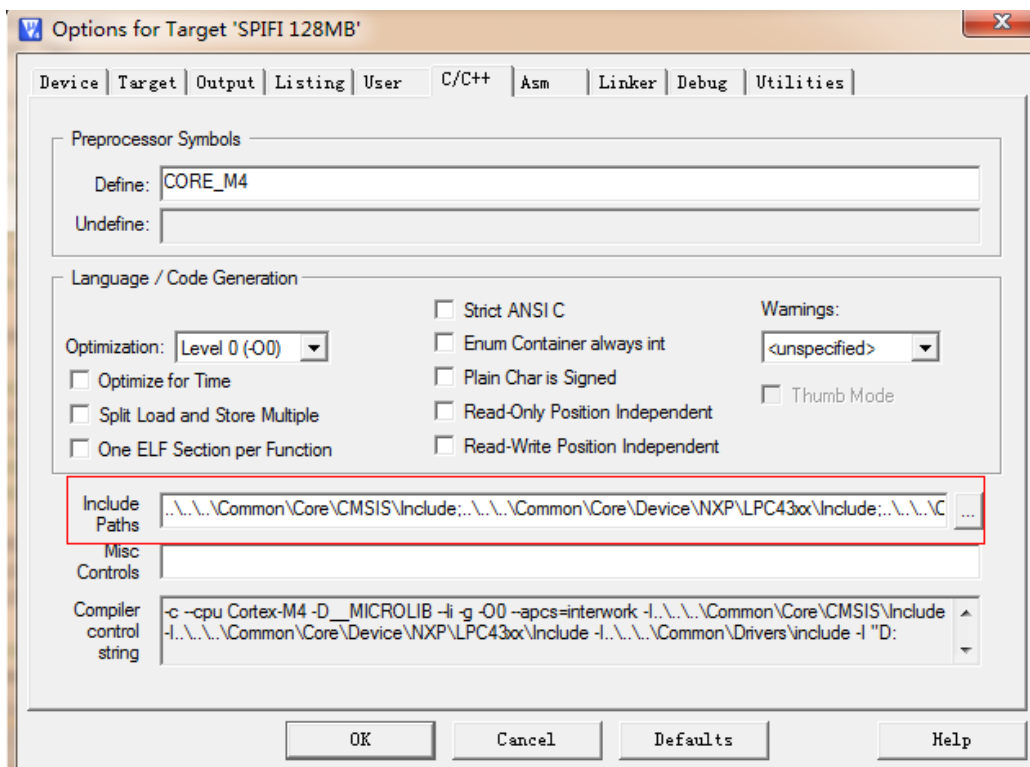

Figure 3-5
(4) C/C++ configuration, user can add or delete compile files path. Refer to figure 3-5: